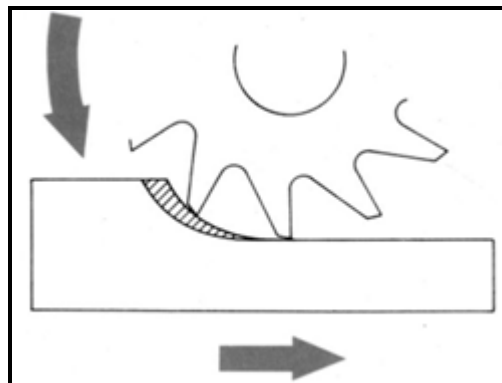

FIGURE 1.2
1.8 Which milling method is shown in FIGURE 1.2?